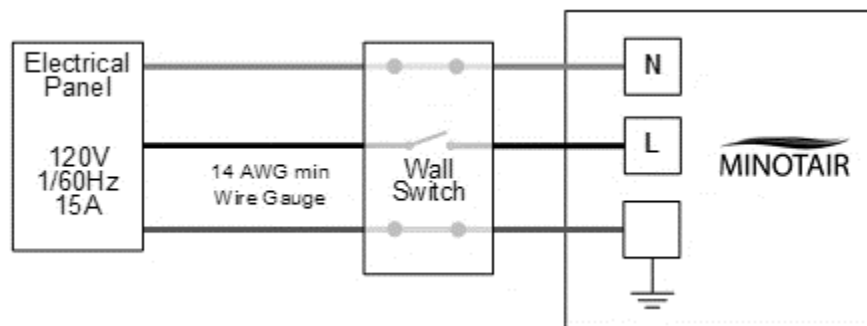

Figure 25 – Connecting the device.
- A 120 VAC/15A circuit must be used and the connection must be made by a qualified electrician. It is always advised to install a wall switch nearby the MINOTAIR that can be used to cut power during repair or maintenance activities (Figure 25).